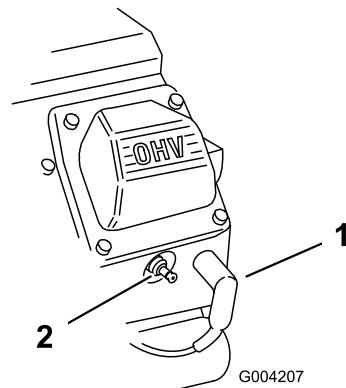

Figure 48
- Pull the wires off the spark plugs (Figure 48).
3. Push the wires onto the spark plugs (Figure 48).